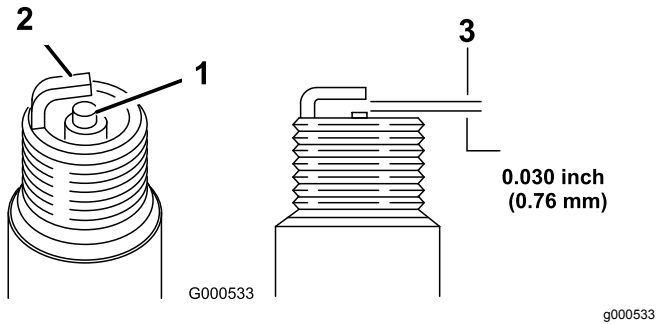

Figure 20
- Set the gap on the plug to 0.76 mm (0.030 inch) as shown in Figure 20.